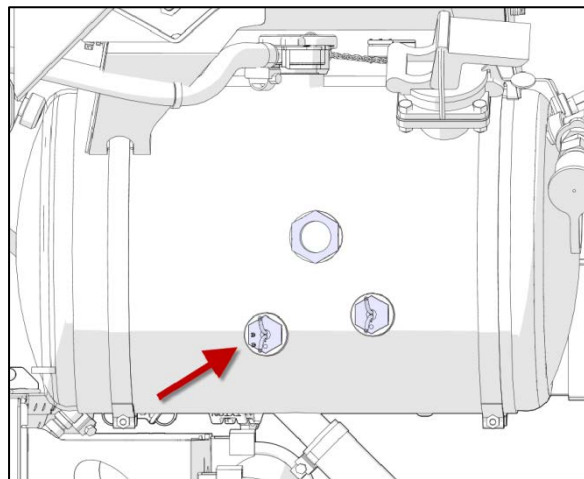

Figure 31
35. Reconnect the coolant level critically low sensor (Figure 31).